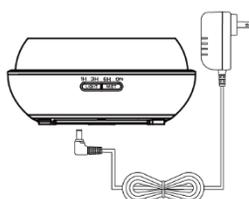

Figure 2
2. Connect the DC plug of the adapter to the DC-IN connector, see Figure 2